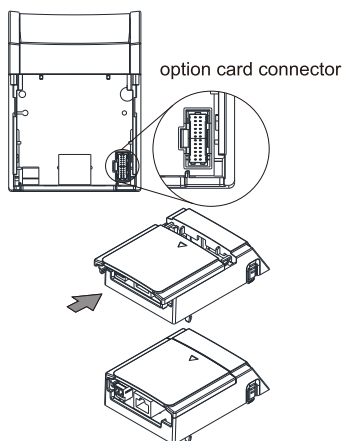

Figure 8-23
7. Attach the upper cover to the mounting box for the option card, as shown in Figure 8-23.